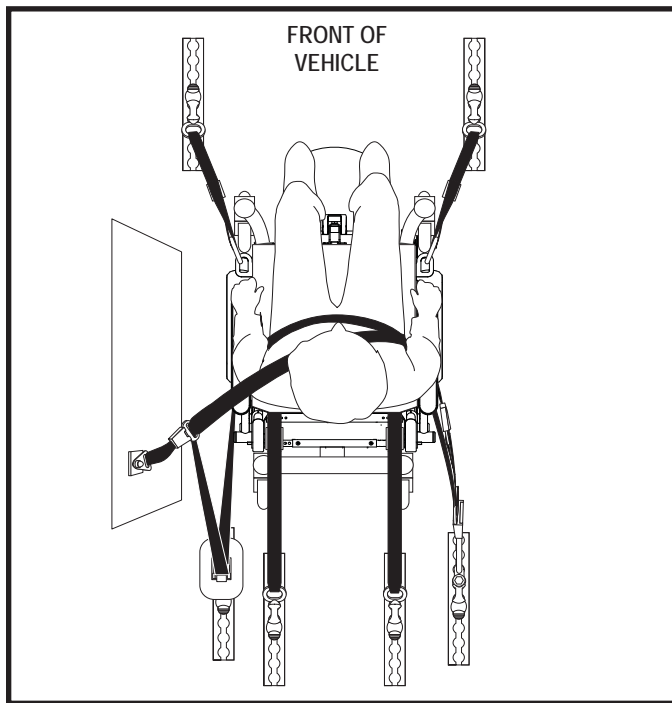

Figure 1. Securing the Power Chair
- Position the anchor points for the rear tie-down straps directly behind the rear securement points on the power chair. The front tie-down straps should anchor to floor points that are spaced wider than the power chair to provide increased lateral stability. **See figure 1.**